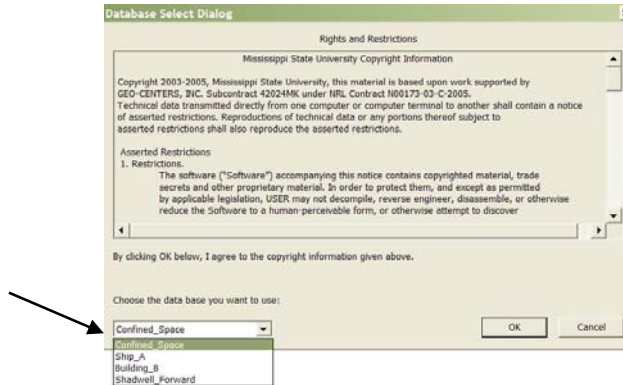

Figure 3.1 Database Selection
Step 1: The Database Selection dialog (shown in Figure 3.1) pops up. From the drop down menu, select the Confined Space database (Confined_Space) and click OK